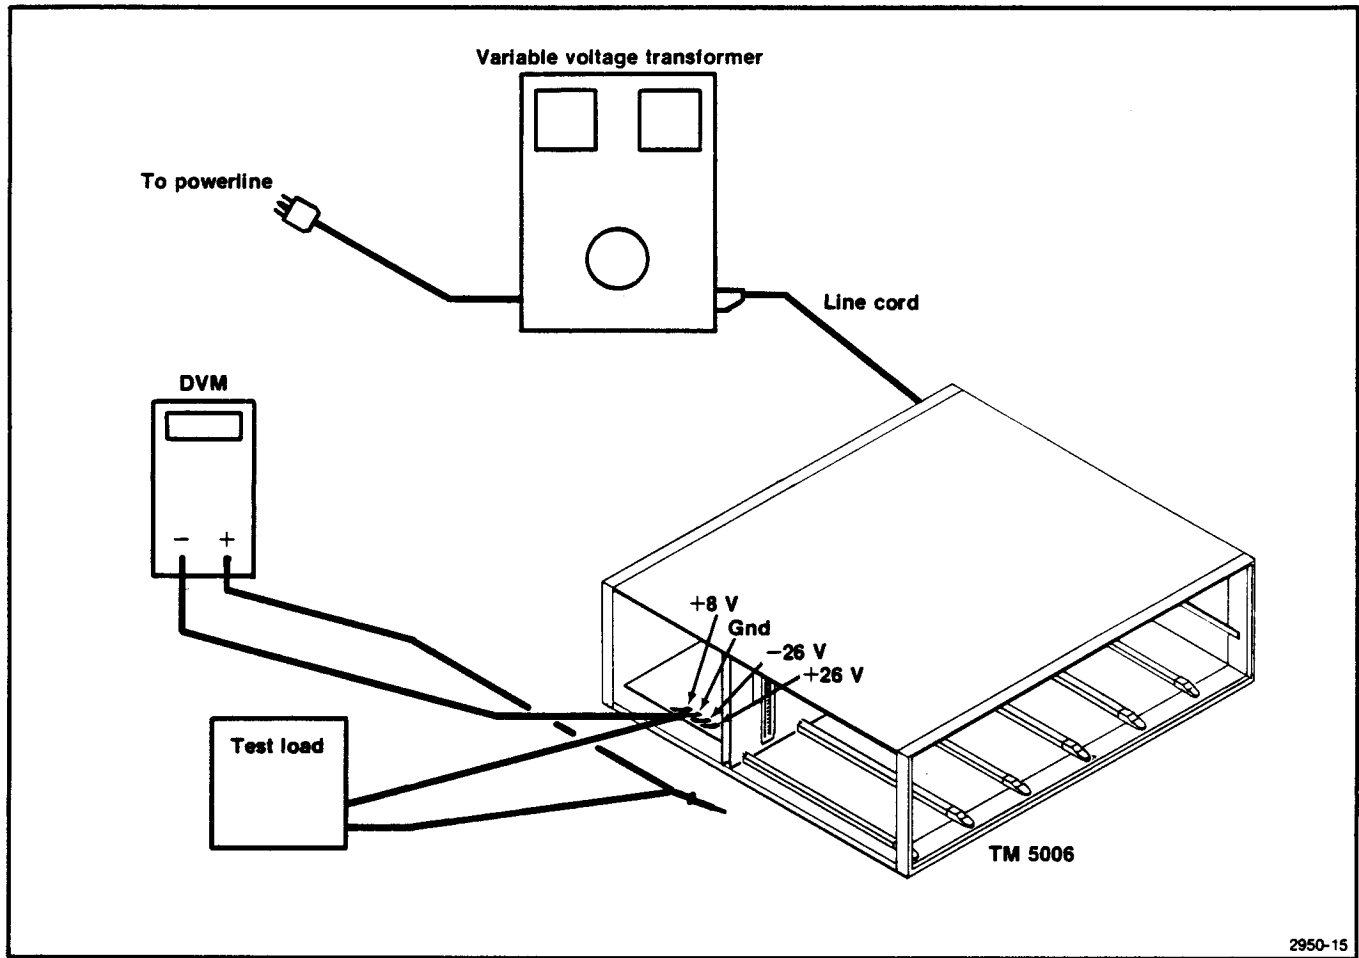
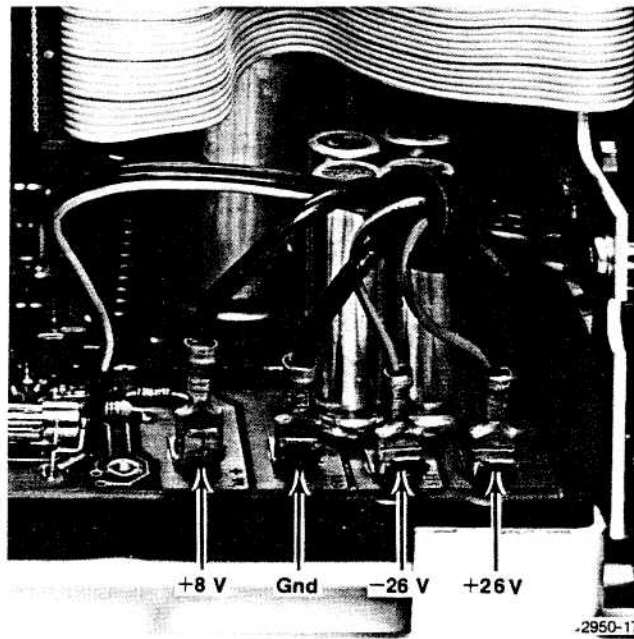

Fig. 4-2. Test setup for performance check steps 1, 2 and 3 and location of connections for adjustment step 1.
Fig. 4-5. Location of voltage buses.
- a. Connect the test equipment as shown in Fig. 4-2. Adjust the line voltage to the TM 5006 for 10% below the nominal line voltage. (Nominal line voltage is the line voltage the instrument is set to operate on.)
- a. Connect the test equipment as shown in Fig. 4-2. Adjust the line voltage to the TM 5006 for 10% below the nominal line voltage.
- Connect the dvm to the +8 V and Gnd terminals as shown in Fig. 4-2. The voltage bus location is shown in Fig. 4-5.